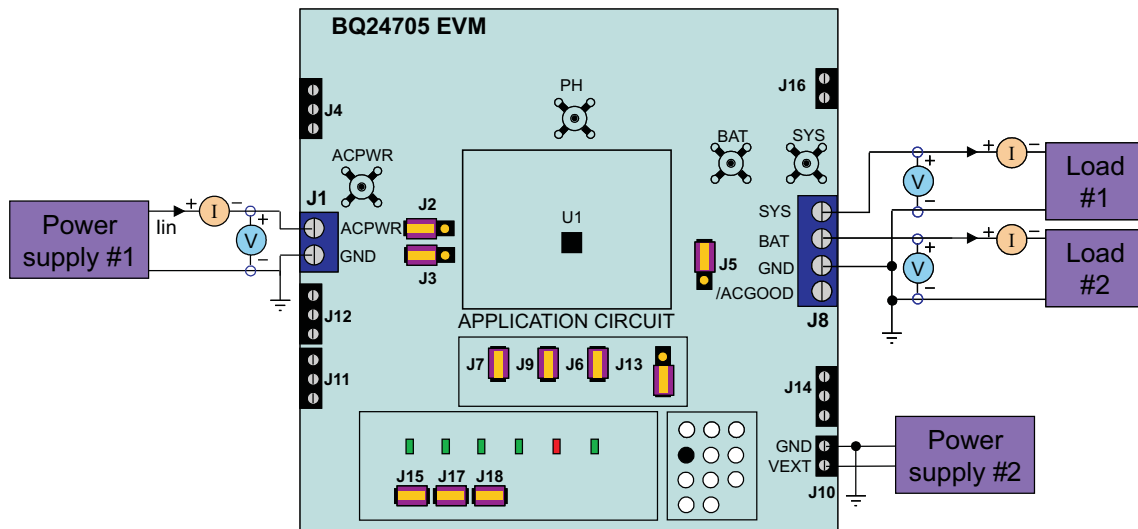

Figure 2. Test Setup for HPA297 (bq24704/5EVM)
3. Connect the output of the Load #1 in series with a current meter (multimeter) to J8 (SYS, GND). Ensure that a voltage meter is connected across J8 (SYS, GND). Turn on the power of the Load #1. Set the load current to 4 A \pm 50 mA but disable the output. The setup is now like Figure 2 for HPA297. Ensure that $I_{bat} = 0 \text{ A} \pm 10 \text{ mA}$ and $I_{sys} = 0 \text{ A} \pm 10 \text{ mA}$.